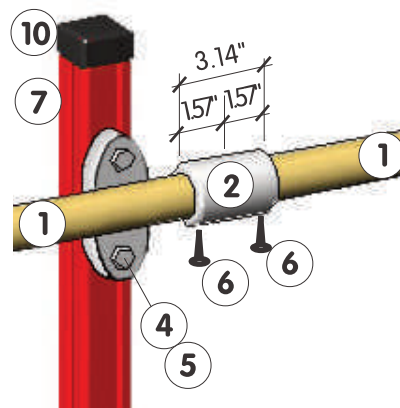

Figure 3 - Intermediate - Detail B
- 3/ Slide a second bracket (2) at the other end of the wooden bar (1) already in place: insert it by 40 mm (1.57 in) (approx.), i.e. just in the center of the cylindrical section (see Fig. 3).
- 4/ Repeat operation 1/ to install the second bracket (2) and moderately tighten the attachment elements (4) + (5).
- 5/ Pre-install a second wooden bar (1) onto the next bracket (1): insert it by 40 mm (1.57 in) (approx.).
- 6/ Position, then slide the assembly (1)+(2) through the previous bracket (2). Align the supports frames (7) in succession.
- 7/ Repeat operations 5/ and 6/, until the last bracket (2) is in place: slide it over the last wooden bar (1) (the bar end should protrude by 60 mm (2.36 in)), and secure it to the last support frame (7).
- 8/ Check the alignment of the wooden bars (1), then tighten the floor attachment elements (9) to a 23 Nm torque.
- 9/ Adjust the height of the ballet bars (1) as required; then lock all the attachment elements (4) + (5).
- 10/ The wooden bars (1) are very slightly curved. For the assembly to be aligned with the wall (stand up in line), rotate each bar (1) until the convex part points downward (or upward).
- 11/ Secure the wooden bars (1) onto the brackets (2) from below: 1 at each end, and 2 intermediate (7) using the self drilling screws (6) (see Fig. 3 and 4).